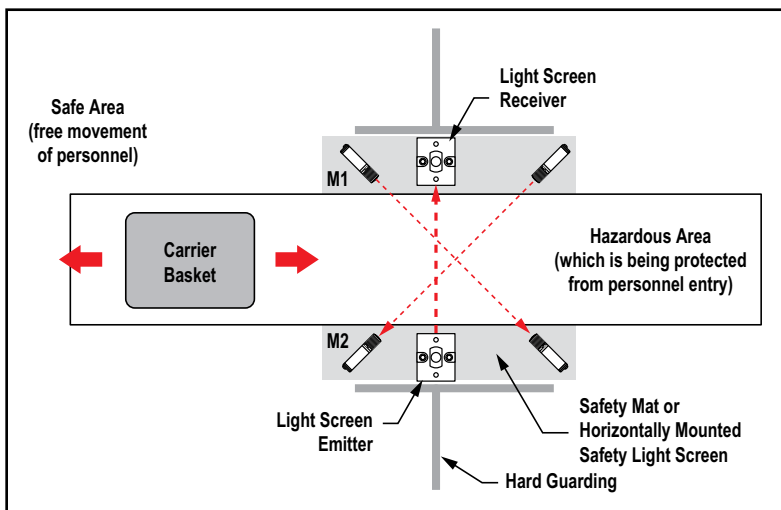

Figure B-1. "X"-Pattern Entry/Exit system using two pairs of opposed-mode photoelectric muting devices
(For example, "X"-pattern Entry/Exit System, see Figure B-1)
- It must not be possible for an individual to block both photoelectric beams (dashed diagonal lines in Figure B-1) and initiate a mute condition. Check the installation to verify that unintentional muting is not possible. The "crossing point" of the photoelectric beams must be located in the hazardous area and not be accessible to personnel (by reaching over, under, through, or around).